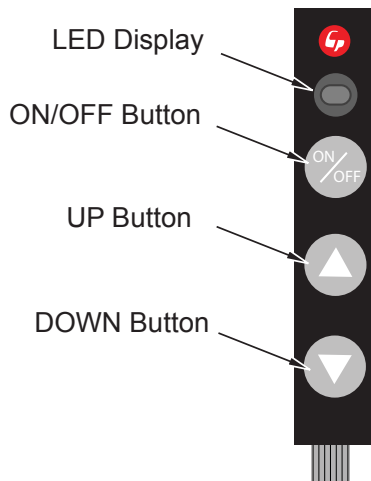

Figure 70 - Touch Pad Control
This touch control has only 3 buttons for controlling manually the flame of the appliance (see **Figure 70**).
1. To increase the flame level, press the up button (▲). A beep and a flash of the LED indicate that the system has accepted the order, and the flame will increase instantly (see **Figure 70**).
2. To decrease the flame level, press the down button (▼). A beep and a flash of the LED indicate that the system has accepted the order, and the flame will decrease instantly (see **Figure 70**).